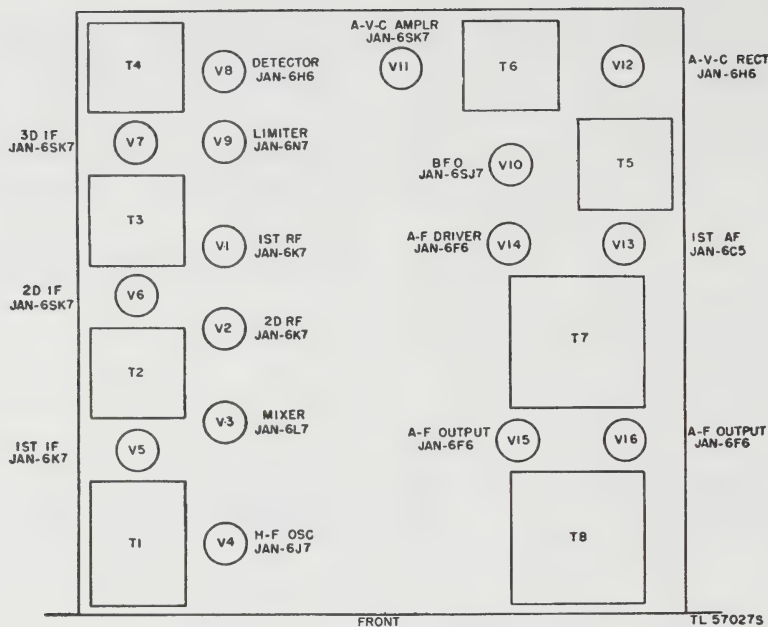

Figure 13. Radio receiver, tube location.
(1) Receiver. To inspect the receiver tubes, remove the dust cover by removing the thumbnuts which hold the cover to the front panel and rear edge of the chassis. A receiver tube location diagram is shown in figure 13. Their proper location, as well as the marking of their respective sockets, is clearly shown also in the etched location plates attached to the top of the tuning unit. All of the receivers use the same set of tubes.